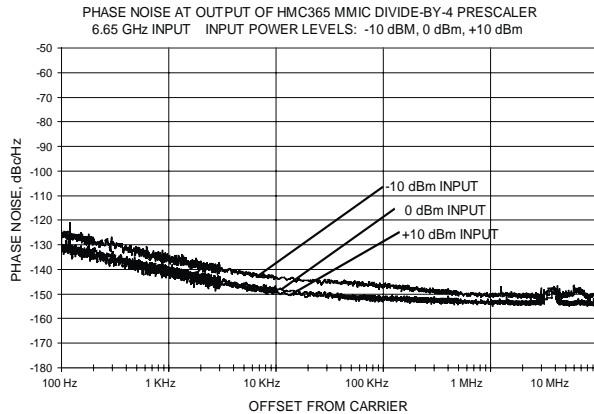

FIGURE 2. The phase noise for a divide-by-four prescaler was measured for three different input power levels.
At the lower end of the recommended input power operating window, the prescaler's output phase noise will begin to degrade. As an example, the output phase noise of a model HMC365 divide-by-four prescaler from Hittite Microwave Corp. was characterized for three different single-ended input-power levels at 6.65 GHz (Fig. 2). The output phase noise first decreases for increasing input power level. Then, above an input power level of 0 dBm, the improvement in phase noise flattens out. Thus, for phase-noise critical applications, it is better to operate this particular prescaler at input power levels of 0 dBm or above, although input power levels above the recommended maximum should be avoided. As the input power increases beyond the rated maximum level, spurious signals will begin to appear at the prescaler's output port. As the input power is further increased, at some level the device will become overstressed, and device degradation may result.
2. Due to thermal noise, 1/f noise processes, etc., there will always be some degradation of the output signal phase noise from the prescaler relative to the theoretical value. As seen in Fig. 2, the phase noise added by a prescaler to a synthesizer is small and usually negligible.